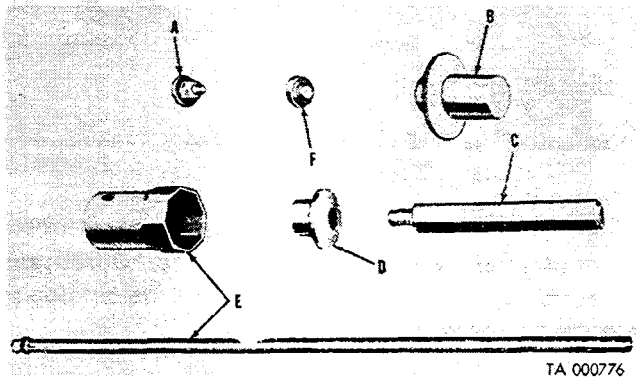

Figure 2-2. Special tools and equipment for operator and organizational maintenance.
a. Standard and commonly used tools and equipment having general application to this materiel are authorized for issue by tables of allowances (TA) and tables of organization and equipment (TOE).
b. Special tools and equipment (fig. 2-2) especially designed for use by organizational level maintenance personnel are listed in table 2-1.